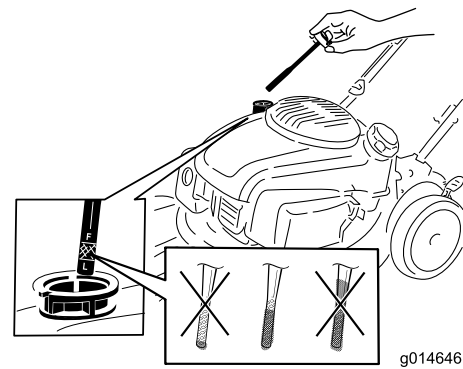

Figure 8
1. Remove the dipstick, wipe it clean, and insert it into the oil filler neck, but **do not** screw it in (Figure 8).
2. Remove the dipstick and check the oil level (Figure 8). If the oil level is below the Add mark on the dipstick, **slowly** pour oil into the oil-fill tube to raise the oil level to the Full mark on the dipstick. **Do not overfill.** (Max. fill: 0.65 L (22 oz), type: 10W-30 or SAE 30 detergent oil with an API service classification of SJ or higher.)